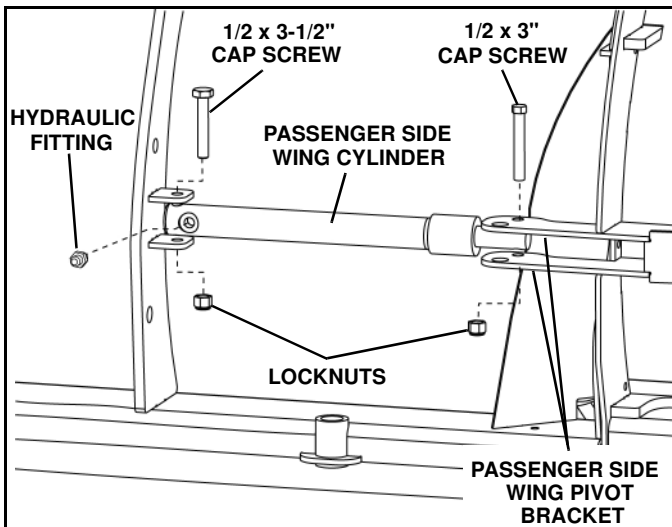

Figure 1-15
2. Position the base of one wing cylinder, with the hydraulic port facing the rear, on the passenger side of the blade. Install a 1/2" x 3-1/2" hex head cap screw and secure with a 1/2" locknut. (See Figure 1-15)